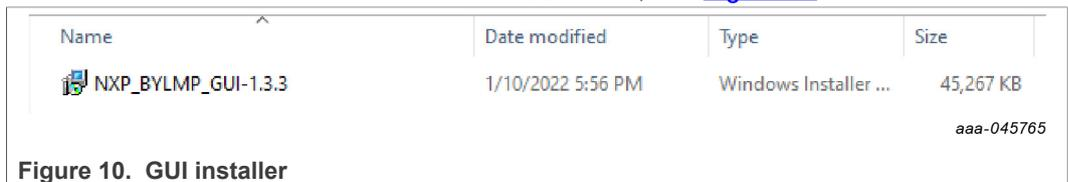

Figure 10. GUI installer
- Double-click the installer located in the GUI folder, see Figure 10.